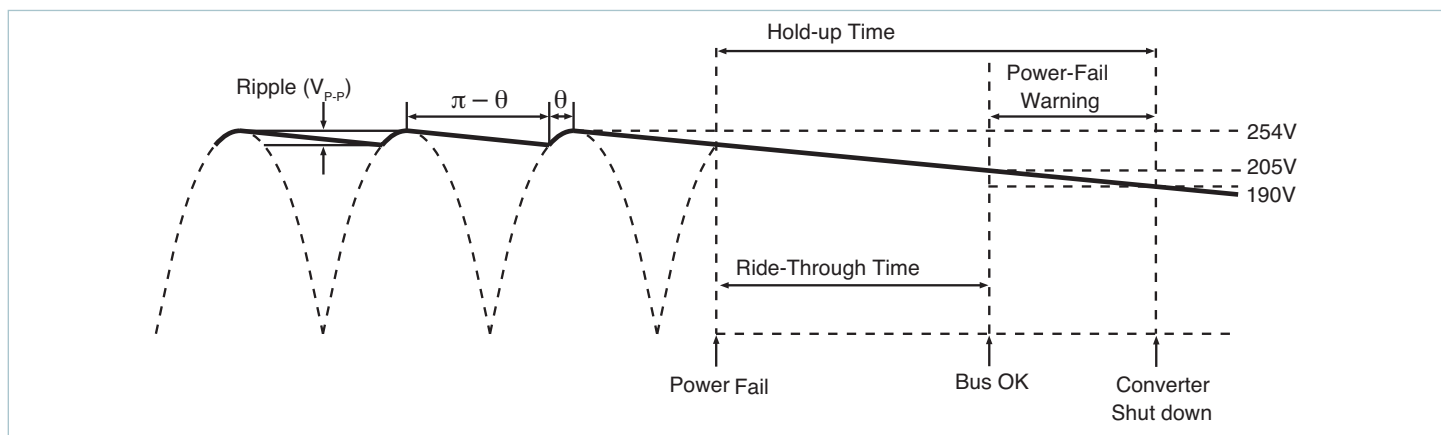
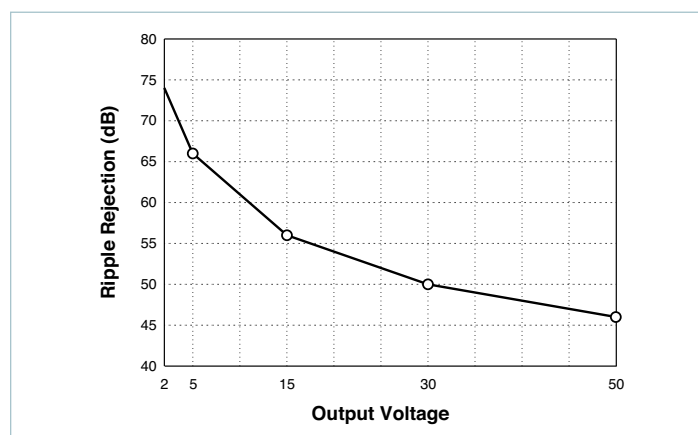

Figure 8.7 — General timing diagram of bus voltage following interruption of the AC mains
Figure 8.11 — Converter ripple rejection vs. output voltage (typical)
Hold-up Capacitors: Hold-up capacitor values should be determined according to output bus voltage ripple, power fail hold-up time, and ride-through time. (Figure 8.7)
The power-fail warning time (Δt) is defined as the interval between Bus OK and converter shut down (EN) as illustrated in Figure 8.7. The Bus OK and Enable thresholds are 205 and 190V, respectively. A simplified relationship between power-fail warning time, operating power, and bus capacitance is obtained by inserting these constants:
For example, a converter whose output is 15V and nominal input is 300V will provide 56dB ripple rejection, i.e., 10V_{p.p} of input ripple will produce 15mV_{p.p} of output ripple. (Figure 8.11) Equation 3 is again used to determine the required capacitance. In this case, V_1 and V_2 are the instantaneous values of bus voltage at the peaks and valleys (Figure 8.7) of the ripple, respectively. The capacitors must hold up the bus voltage for the time interval (Δt) between peaks of the rectified line as given by:
(Figure 8.7)